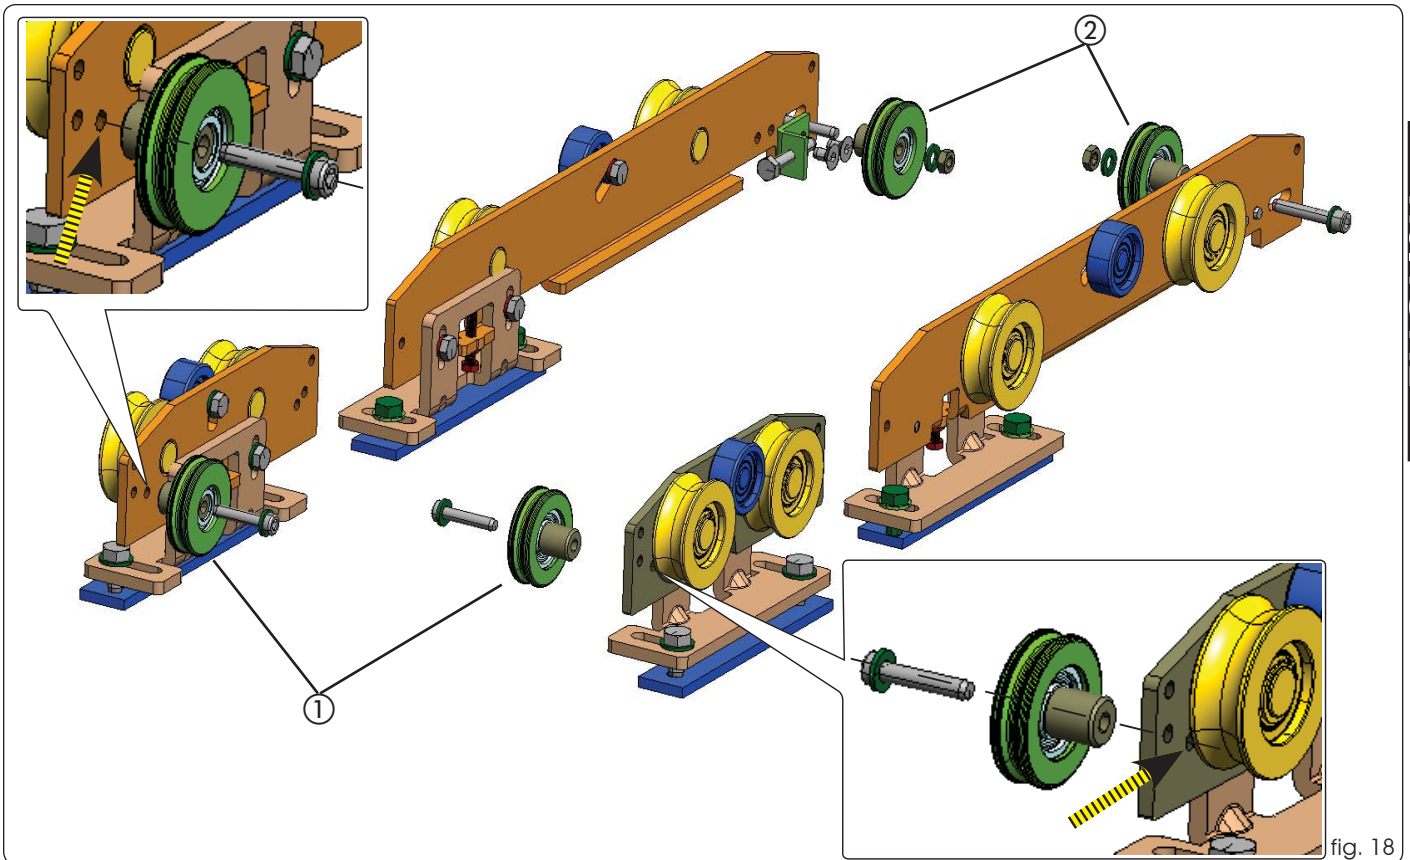

fig. 18
The wheel in fig.18 ref. ① is fixed using the screw on the threaded hole of the carriage. The second wheel is fixed on the other long carriage using the screw and the nut on the slot fig.18 ref. ②.